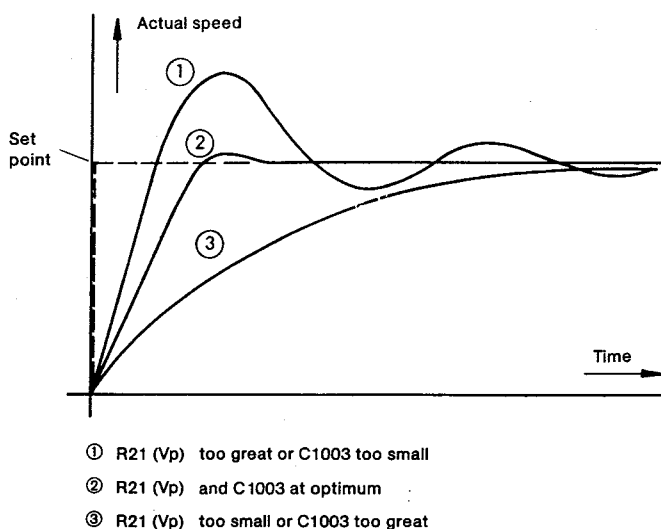

Fig. 15
Fig. 15 shows different characteristic curves for the actual speed with a stepped set point course. In order to obtain the corresponding characteristic curves, a defined set point step must be applied at the input of the regulator (terminal 3) and the value of C1003 found by the following procedure.
- Reduce the capacitance until at a set point step the run of the actual speed curve on the oscilloscope corresponds to curve 2 in Fig. 15. Over-shooting from 10 to 15 % is permitted.